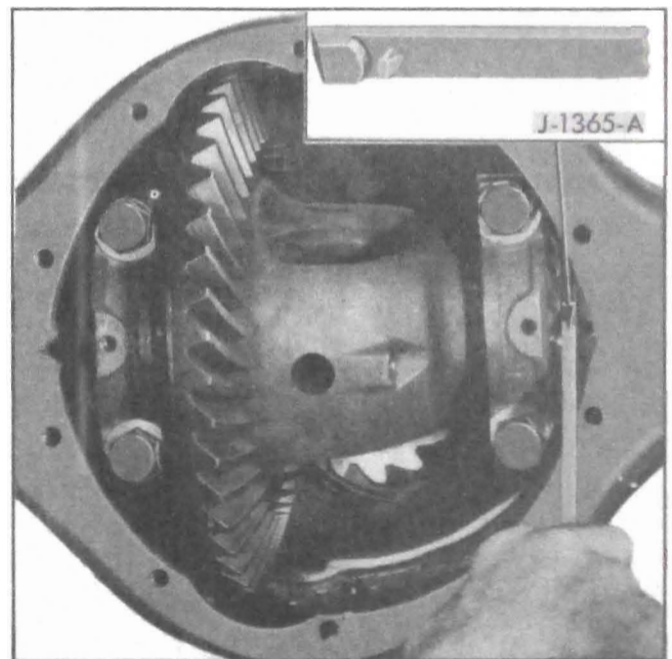

Figure 6-22—Adjusting Differential Bearings
4. Using Adjuster Wrench J 1365-A (fig. 6-22) turn adjusters as required to set ring gear lash at approximately .010", with both adjusters in firm contact with bearings. **CAUTION:** *Do not use punch and hammer to turn adjusters as adjusters will be distorted and proper bearing adjustment cannot be obtained.*